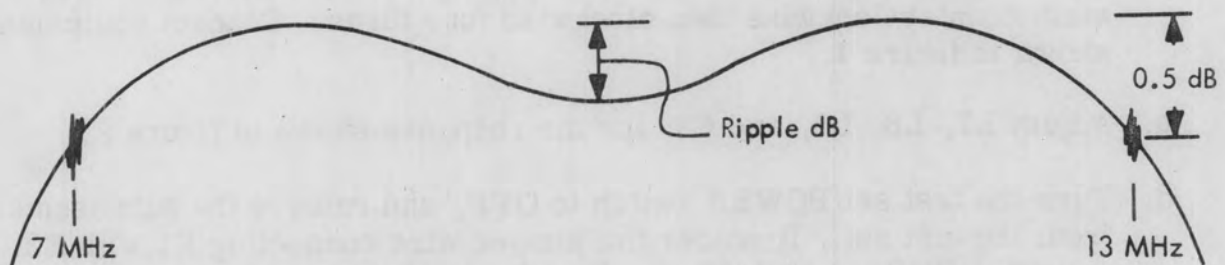

Figure 3. Response no. 2
- e. Adjust L2, L3, and L4 for the response shown in figure 3. The overall response should have less than 0.5 dB ripple and the 7-13 MHz bandwidth should be less than 0.75 dB down.
L7, L8, L9, and C28 as required to achieve the response shown in figure 3.